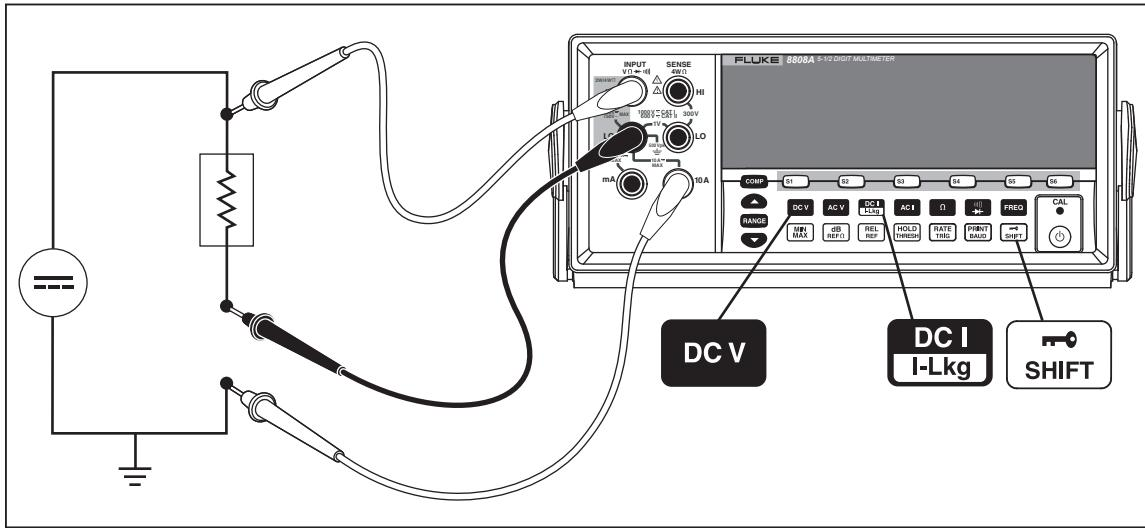

Figure A-2. DC Voltage and DC Current Measurement on Input Signal
Most applications of the dual display listed in Table A-2 can be performed using a single set of test leads connected to the **INPUT VΩ►** HI and LO terminals. However, to measure the voltage and current of an input signal requires three leads. Be sure that the voltage and current measurements share the same common as shown in Figure A-2. Then simply follow the precautions you would follow if you were making normal current measurements without a current clamp.
4. Connect the leads to the test circuit as shown in Figure A-2 and read the measurements on the display. Although current will be displayed as negative, it is in fact positive when interpreted according to current flow convention.